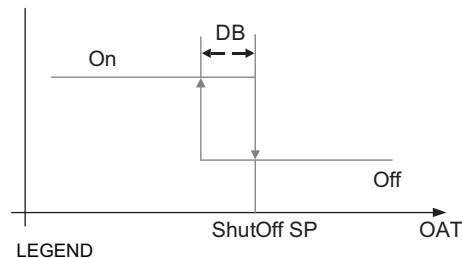

Fig. 64 — Hysteresis Settings
Hysteresis setting (DB) defaults to 2°F (−17°C). See Fig. 64.